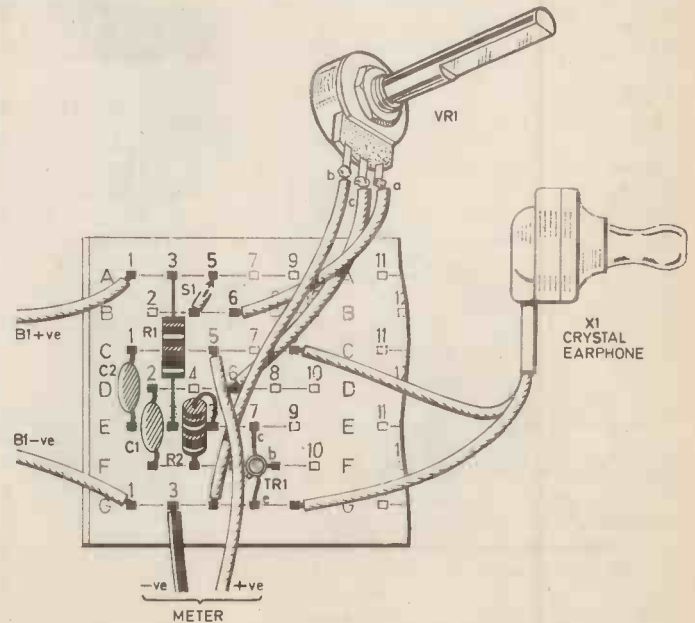

Fig. 4.9. The circuit of Fig. 4.7(b) assembled on the EBBO Block.
- Q4.3 In Fig. 4.9, what is the collector current of TR2, approximately?
Q4.4 In Fig. 4.9, the setting of VR1 that just allows the circuit to oscillate requires VR1 (c-b) to be 50Ω . What is the gain of the amplifier?